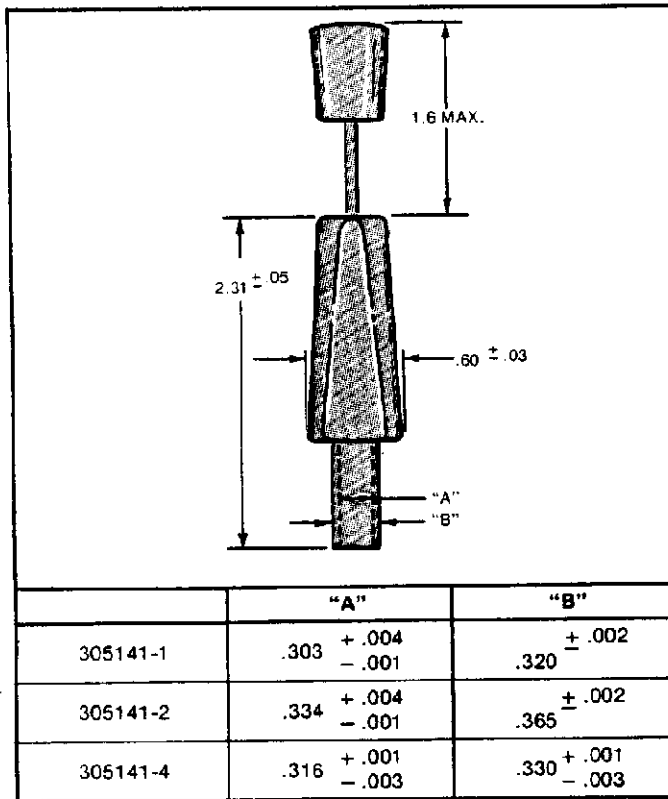
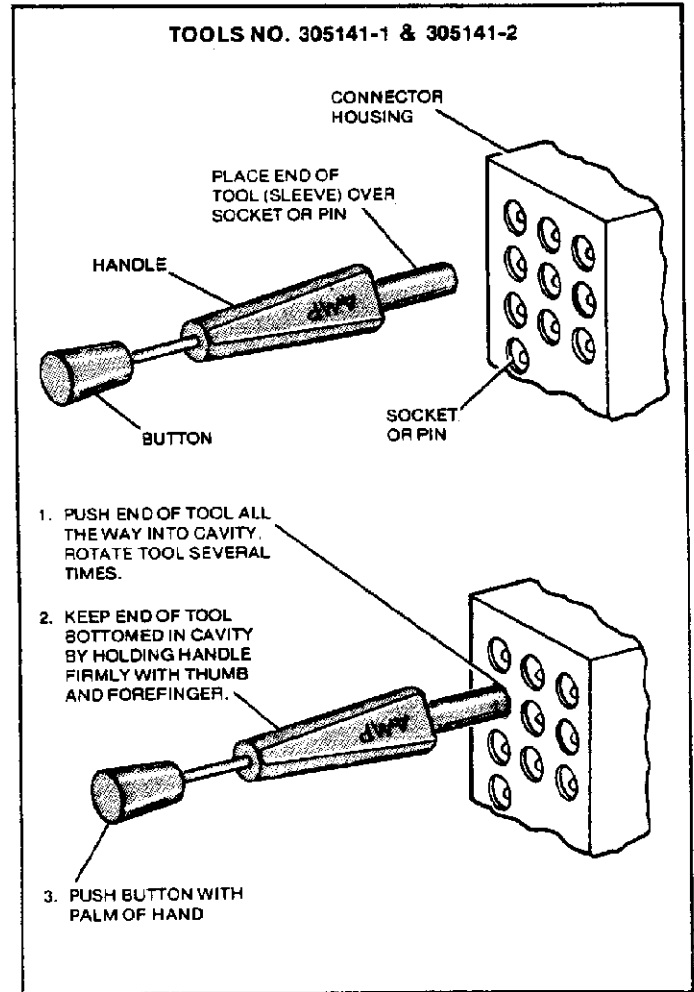
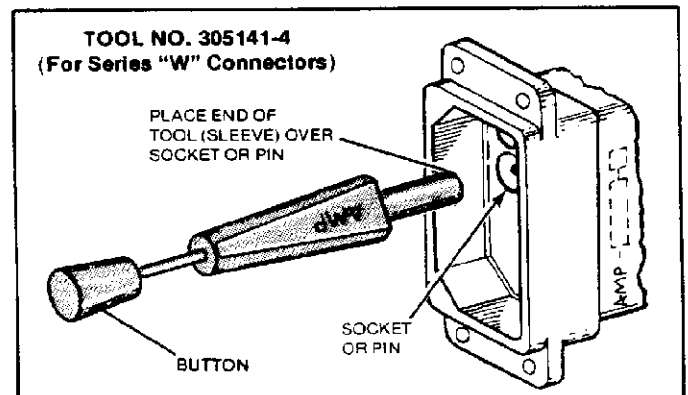

Figure 1
Figure 2
Figure 3
The tools shown in Figure 1 are used to extract COAXICON sockets and pins from multiple contact connectors. Tool No. 305141-1 is used to extract all standard COAXICON sockets and pins. Tool No. 305141-2 is used to extract twin COAXICON sockets and pins from rectangular connectors. See Figure 2. Tool No. 305141-4 is used to extract twin COAXICON contacts from Series "W" connectors only. See Figure 3.
- Place end of tool (sleeve) over end of socket or pin as shown in Figure 2.